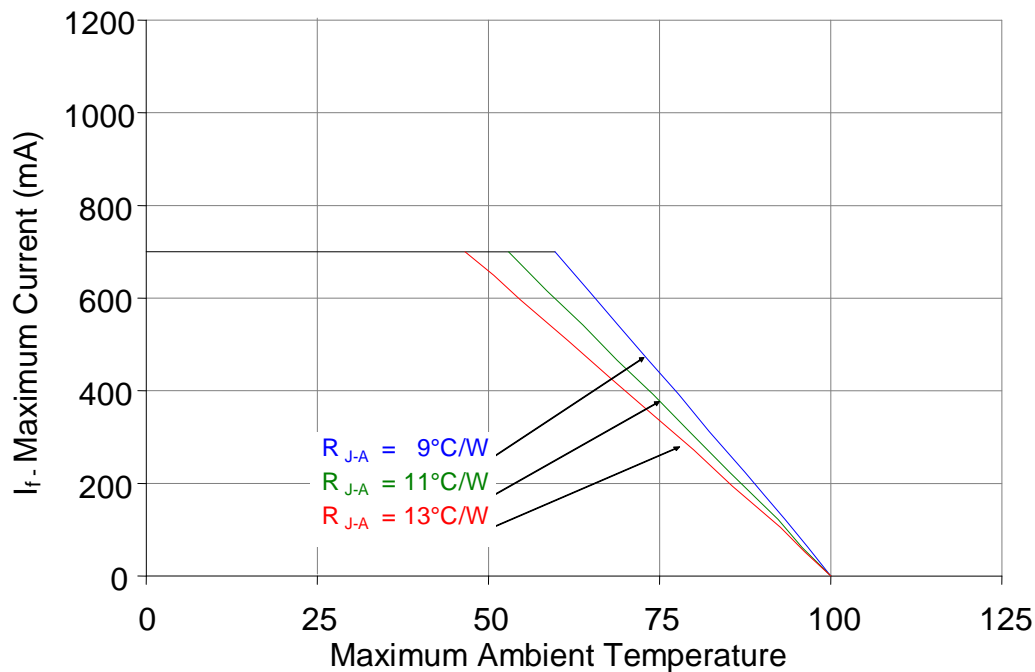

Figure 10: Maximum forward current vs. ambient temperature based on T_{J(MAX)} = 125°C.
- Maximum DC forward current is determined by the overall thermal resistance and ambient temperature. Follow the curves in Figure 10 for current derating.
Notes for Figure 10: